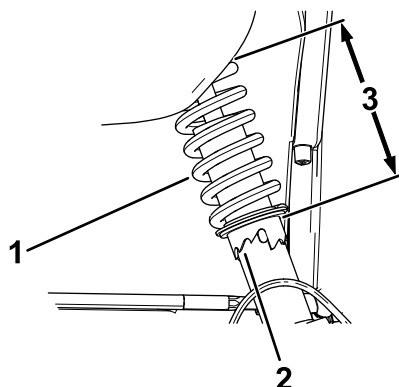

Figure 51
- If the wheel camber is out of alignment, use the spanner wrench to rotate the collar on the shock absorber to align the wheel (Figure 51).